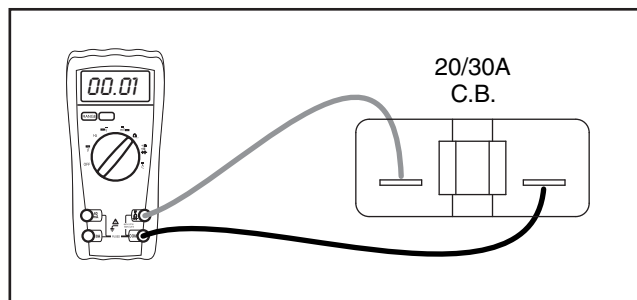

Figure 2. 20/30 Amp Breaker Test Points
3. With the generator shut down, connect one meter test lead to a one terminal of the breaker and the other meter test lead to the other terminal. See Figure 2.